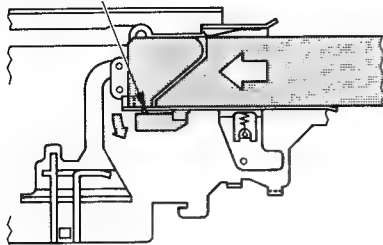

Fig. 3-1-2
- (1) When a cassette is loaded into the cassette holder, two cassette detection switches mounted under the cassette holder are pressed by the bottom case of the cassette and closed. (IC601 controls IC602 to rotate the FL motor in forward direction.) (Fig. 3-1-2)
- (2) The motor rotates in direction shown by the arrow (clockwise direction viewed from front side) with the two left and right cassette detection switches in operation.